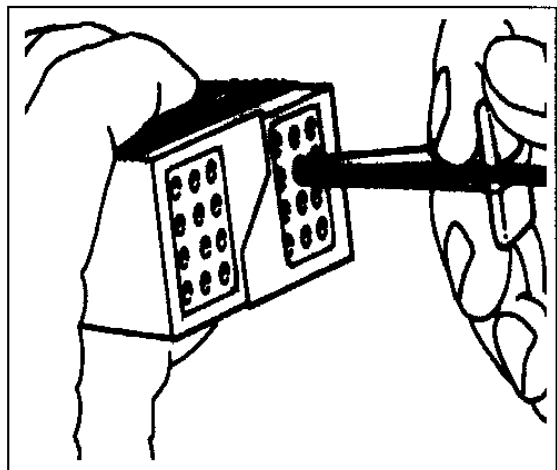

Figure 34 Slide Extractor Tool Along Wire Straight into Connector Cavity
2. Slide extractor tool along wire straight into connector cavity until it contacts terminal and resistance is felt (Figure 34).